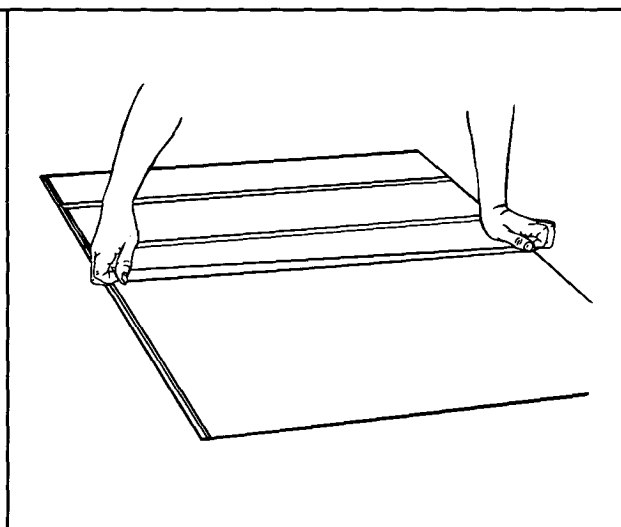

Figure 72
- a. Add six strips of masking tape to back side of decorator panel to prevent scratching refrigerator door. See Figure 72.